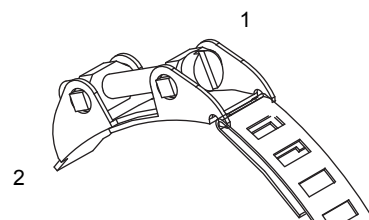

Fig. 6.3: Clasp with tension strap
- Pull approx. 2 cm of the tension strap through the slot of the clasp to fix the clasp to the tension strap (see Fig. 6.3).